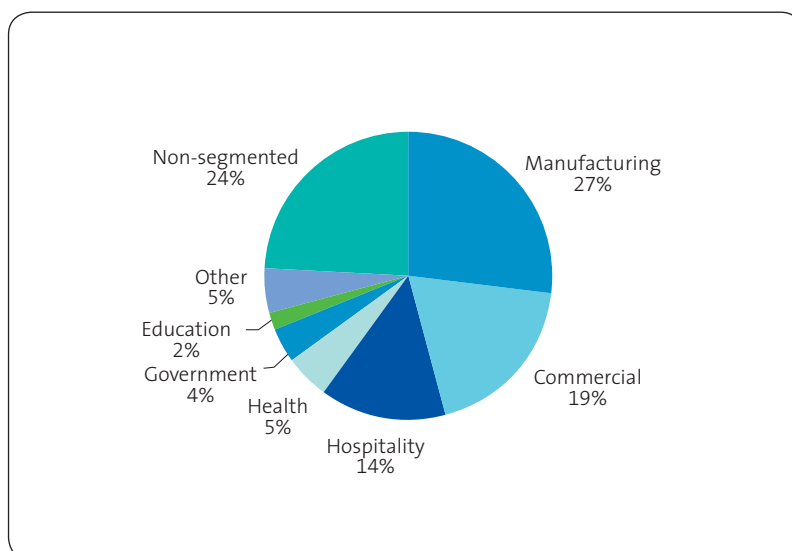

Figure 3 – Water used by the hospitality sector in Sydney in 2006 as a proportion of total business water use
- Figure 3** – Water used by the hospitality sector as a proportion of total business water use
Sydney Water data shows the hospitality sector accounts for 14% of business water use in Sydney, or nearly 52 million litres every day (Figure 3). This includes water used by clubs, hotels, restaurants and cafes. This is the same amount used by more than 100,000 households every year.